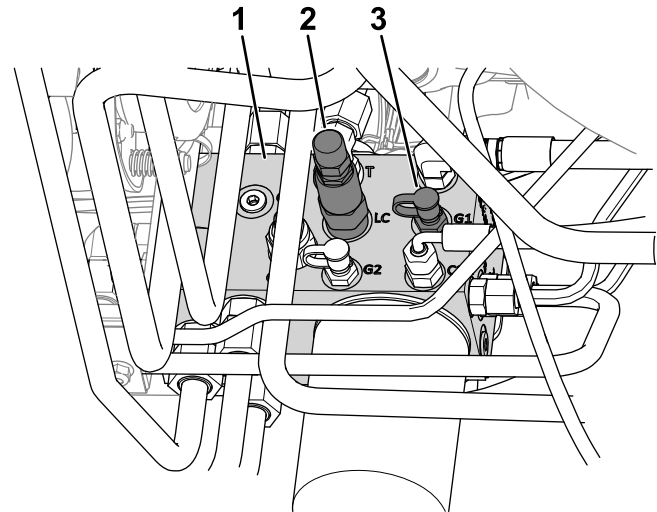

Figure 24
4. Connect a pressure gauge to the test port (labeled G1; refer to Figure 24).
2. Weight-transfer spool (LC)
5. At the side of the lift manifold, remove the cap from the test port (labeled G1; refer to Figure 24).
6. Loosen the jam nut at the end of the weight-transfer spool (labeled LC; refer to Figure 24).